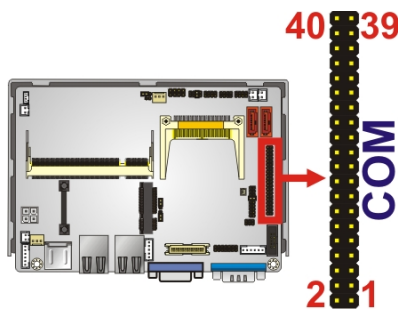

Figure 3-10: COM3 to COM6 Connector Pinout Locations
- CN Location:** See **Figure 3-10**